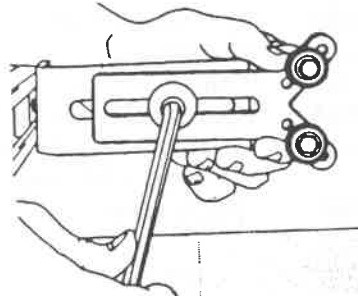

Figure 7
7. Use a $5/16$ " Allen wrench to tighten the cap screw (8), as shown in Figure 7.